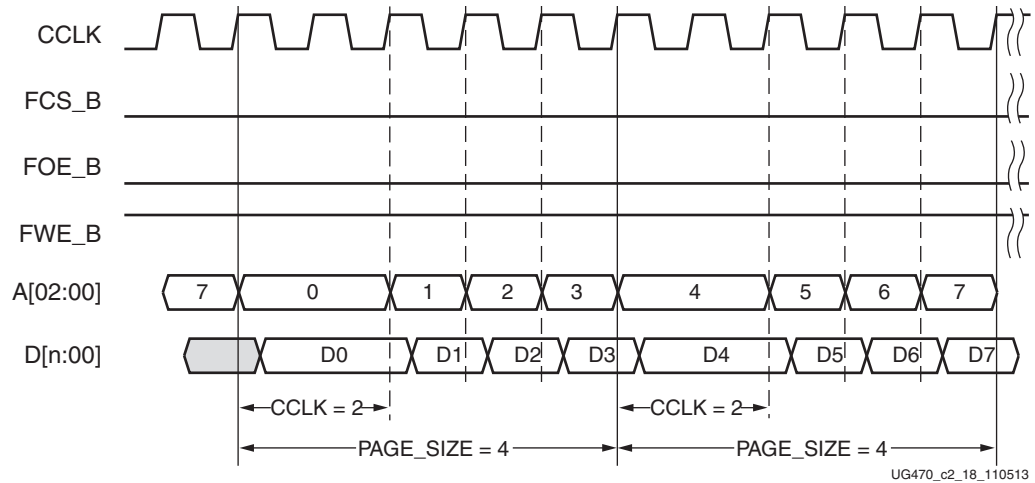

Figure 2-19: BPI Waveforms (Page Size = 4 and First Access CCLK = 2)
The sequence of page-mode operation is controlled by the 7 series FPGA bitstream. After an FPGA reset, the default page size is 1, the first access CCLK is 1, and the master CCLK is running at slowest default frequency. The COR0 register contains master CCLK frequency control bits (see Configuration Options Register 0 \(01001\), page 108). The COR1 register contains BPI flash page mode control bits (see Configuration Options Register 1 \(01110\), page 111). After the COR1 register is programmed, the BPI address timing switches at the page boundary as shown in Figure 2-19. When the SWITCH command is received, the master CCLK switches to a user-desired
Notes related to Figure 2-19:
1. Figure 2-19 shows BPI mode, a page size of 4, and a first access CCLK of 2.